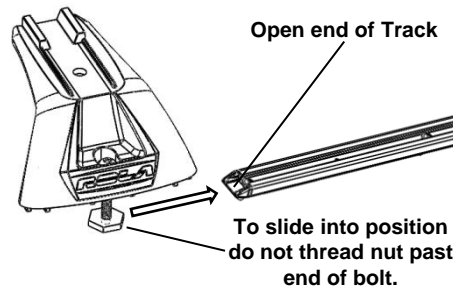
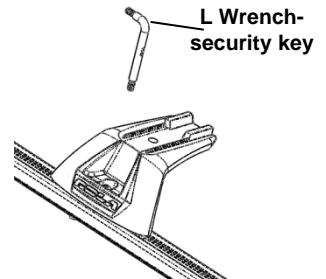

Fig. 4
Fig. 5
- A. Place an End Support and the M6 Hex Nut Brass into the open end of the Track (Fig 4.) Ensure that the Brass Nut is engaged in the channel. Position it along the rail with the logo facing out. Turn the bolt approx 2-3 turns with the L Wrench security key (Fig 5). Do not tighten yet, Repeat for the other 3 End Supports.